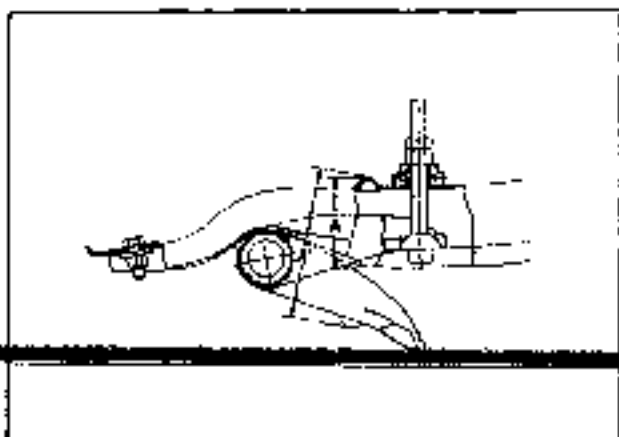

Fig. FA-33 Anchor arm installation
(2) Position lower link so that no clearance is between lower link and bumper rubber, and install spring anchor on torsion bar to obtain "A" dimension shown in Figure FA-33.